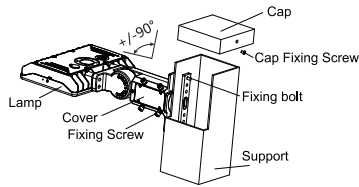

Figure 25
Step 2: Fix the DM bracket to the square pole by bolt. Connect the power cable with pole cable, make sure good protection on wire connection, and put the wire in the DM bracket; close the side lid and tighten it, (figure 25) then finish installation.
Notice: Adjustable angle is 0~+/-90°(Figure 25)